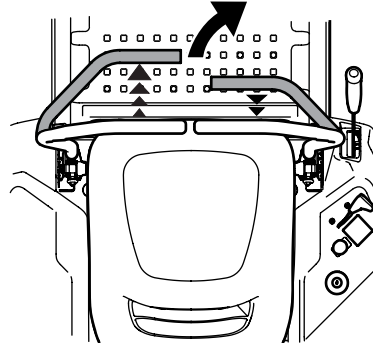

Figure 3-6
2. To turn to the right, move the right drive control lever rearward of the left lever. See Figure 3-6.